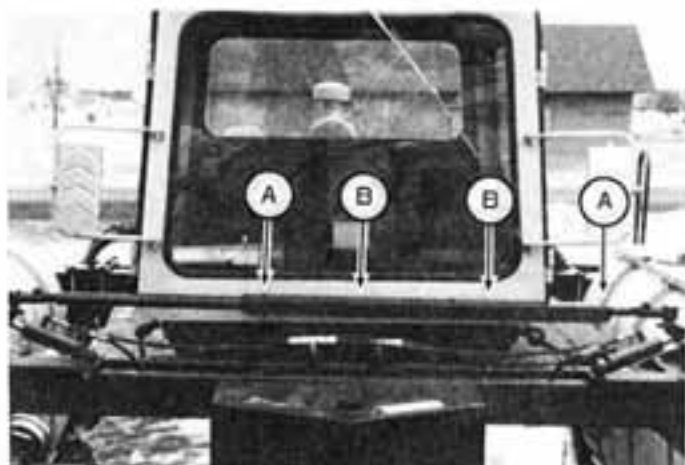

Figure 1
2. Loosen bolts (Item A); remove bolt, nut and clamp (Item B) on the tie rod adjusting bar. See Figure 1.